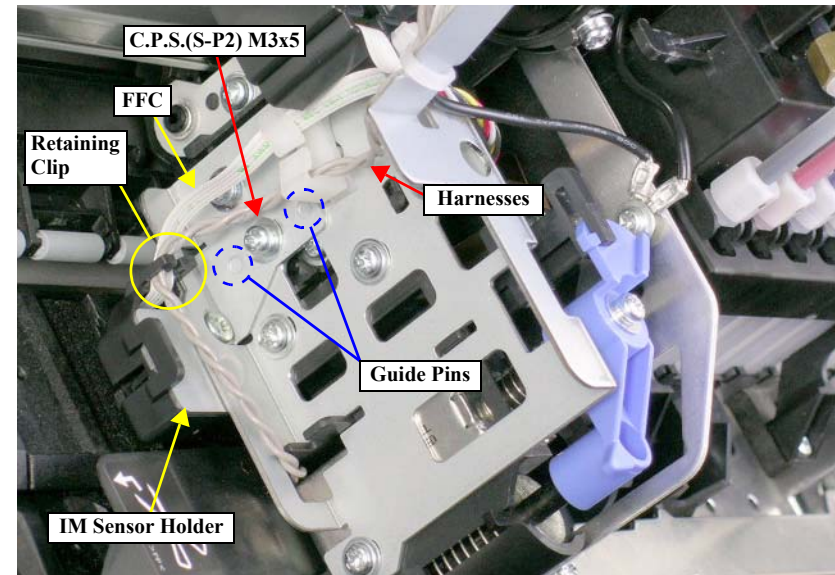

Figure 4-96. Screw Securing the IM Sensor Holder
3. Release the FFC and harnesses from the retaining clip on the IM SENSOR COVER. *See Figure 4-96.*
4. Remove the screw that secures the IM SENSOR HOLDER. *See Figure 4-96.*
When reinstalling the IM Sensor Holder, make sure the two guide pins on the Holder are set in the positioning holes. *See Figure 4-96.*